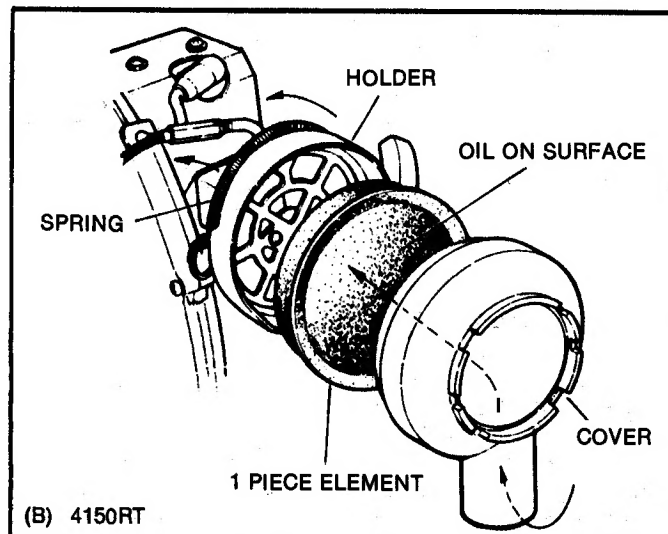

FIG. 9 - AIR CLEANER
Service the **AIR CLEANER** (1) more frequently than every 10 hours if the trimmer is operating in dusty/dirty conditions. Refer to FIG. 9 - (A) 24.1cc, (B) 40.6cc.